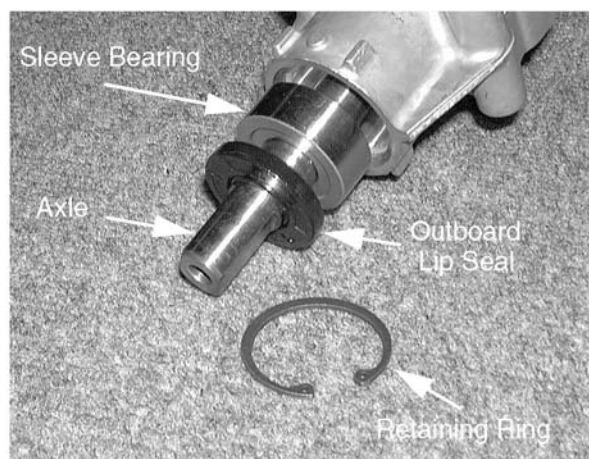

Figure 6-75.
16. Slide the left axle into the left housing. See Figure 6-75.